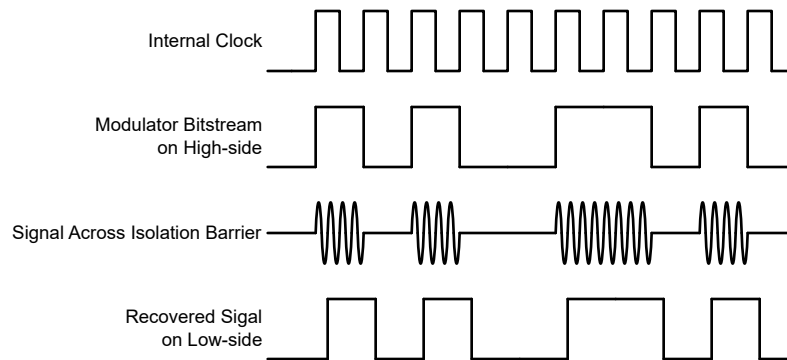

Figure 7-1. OOK-Based Modulation Scheme
The AMC1311-Q1 uses an on-off keying (OOK) modulation scheme, as shown in Figure 7-1, to transmit the modulator output bitstream across the SiO₂-based isolation barrier. The transmit driver (TX) shown in the Functional Block Diagram transmits an internally-generated, high-frequency carrier across the isolation barrier to represent a digital *one* and does not send a signal to represent a digital *zero*. The nominal frequency of the carrier used inside the AMC1311-Q1 is 480 MHz.